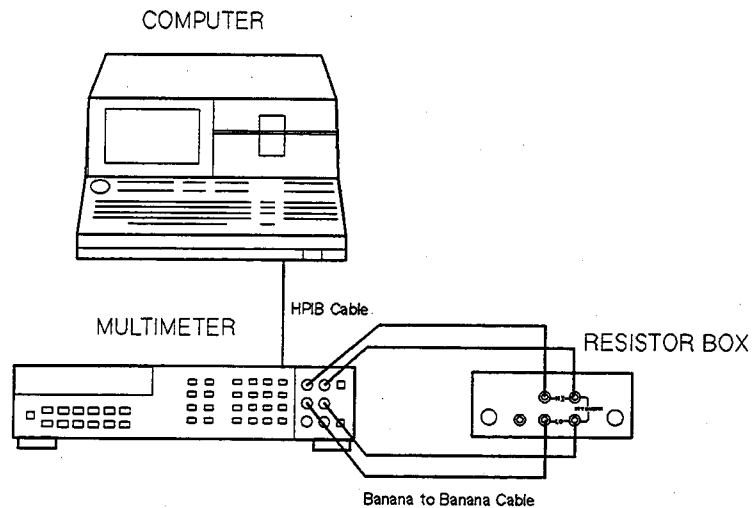

Figure 2-1. Resistor Box Calibration Setup
3. Calibrate the 50 m Ω , 200 m Ω and 1 Ω Resistor Box according to the program instruction. Figure 2-1 shows the instrument setup for the Resistor Box calibration. The Resistor Box Calibration Program is described in Paragraph 1-8.